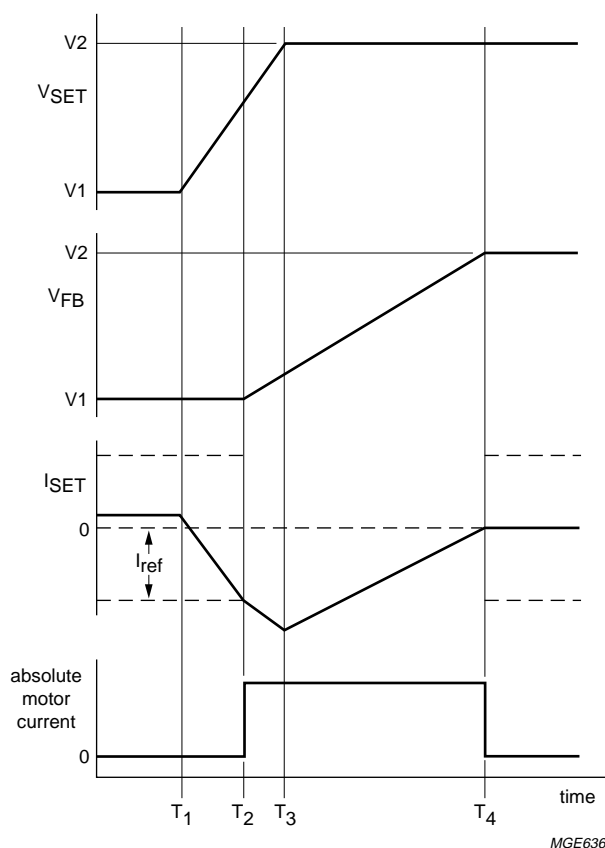
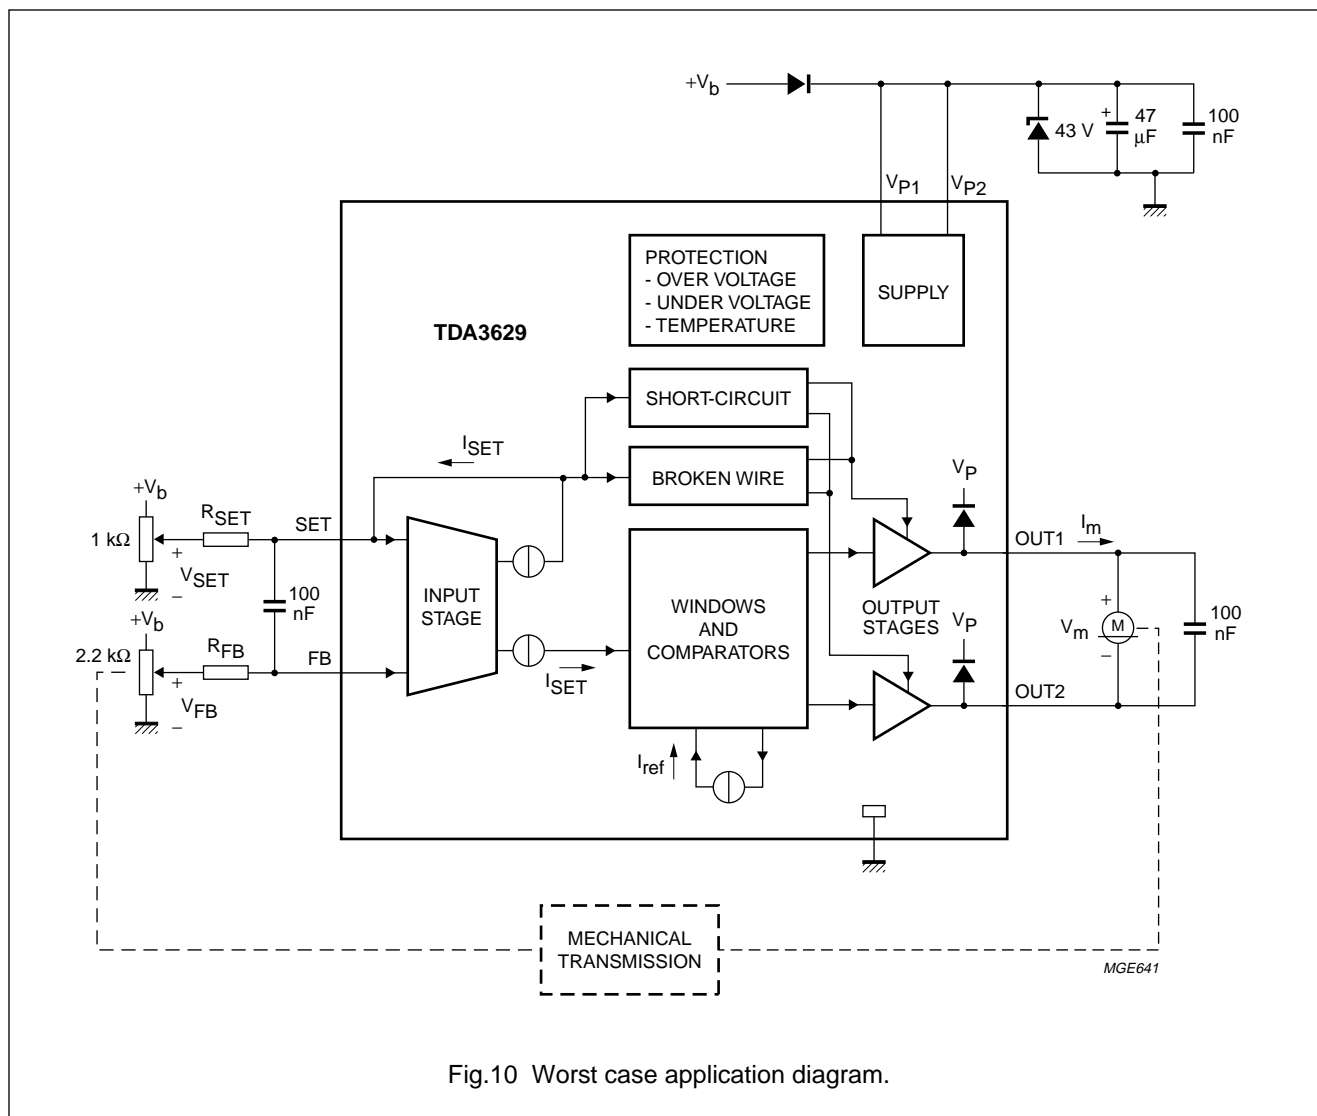

Fig.5 Timing diagram.
Fig.10 Worst case application diagram.
The timing can be divided into several parts starting from a steady state (see Fig.5, the starting point, and Fig.10 for the application diagram): in this state (until T_1) a large reference current is active, indicated by the dotted lines. When the setting potentiometer is rotated (started at T_1 and indicated by V_{SET}) and the input current I_{SET} becomes higher than the reference current I_{ref} (at time T_2), the motor will start and the input current will decrease. At the same time the reference current is switched to a low level. During rotation of the motor the input current will decrease until it becomes lower than this low reference current;
In accordance with the Absolute Maximum Rating System (IEC 134). All voltages are defined with respect to ground. Positive currents flow into the device. Values measured in Fig.10.
- Wave forms illustrated in Figs 7 and 8 applied to the application diagram, Fig.10.
$V_P = 12\text{ V}$; $R_L = 14\ \Omega$. All voltages are defined with respect to ground. Positive currents flow into the device. Values measured in Fig.10 with $R_{SET} = R_{FB} = 20\text{ k}\Omega$; unless otherwise specified.
Worst case transients that may occur on the battery line V_b of the application (see Fig.10), are the pulses whose wave forms and the corresponding values are as illustrated in Figs 7 and 8. The signal source which generates these pulses (numbered pulses 1 and 2) has a series resistance (R_i) of $10\ \Omega$. These pulses represent for instance the influence of switching of inductors on the battery line. The signal source which generates pulses 3 and 4 has a series resistance of $50\ \Omega$. These pulses represent for instance the influence of ignition on the battery line. Their repetition rate is 100 ms.
Two possible application diagrams are shown. The first (see Fig.9) shows the best case: the lowest component count. The second (see Fig.10) shows additional components which may be necessary. Two capacitors are added to meet EMC requirements (one on the V_P pins, the second one between the set and feedback input pins). A third capacitor has been added across the motor to suppress current spikes. The given values of these capacitors have to be optimized by experiments carried out on the total application. The resistors do not have to have the same value. The voltage hysteresis is set by means of R_{SET} .